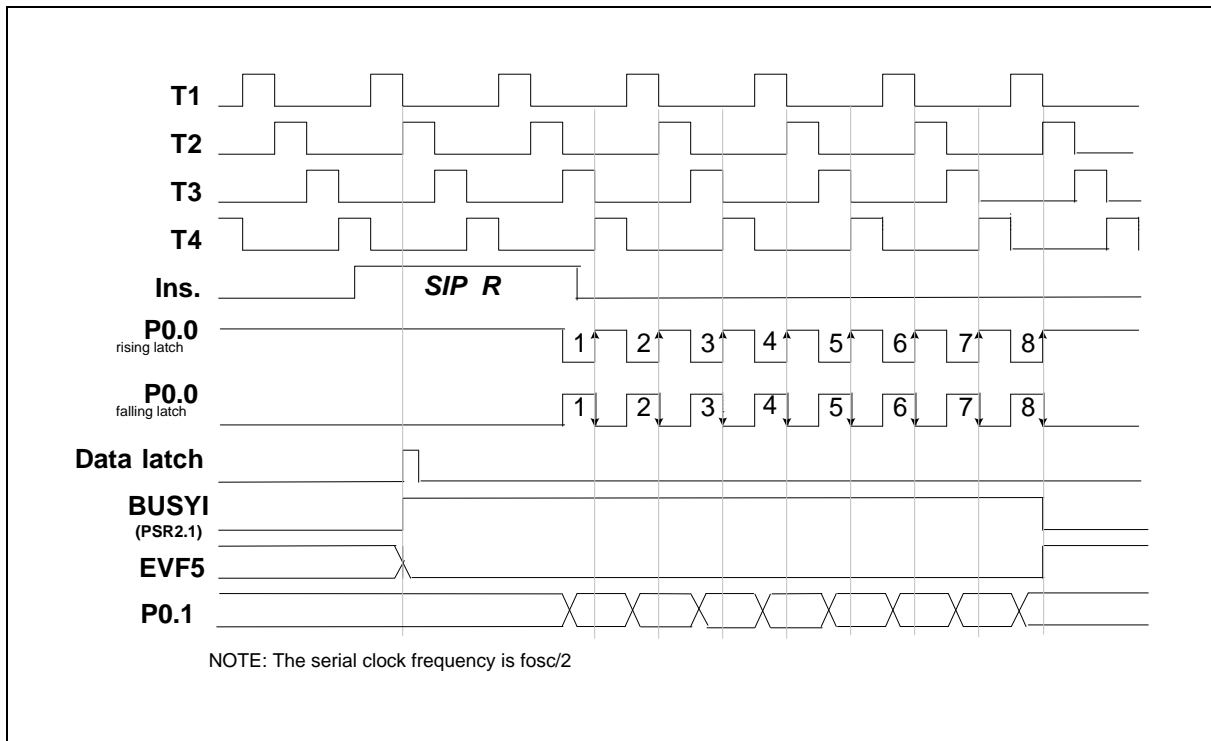

Figure 5-12 Timing of the Serial Input Function (SIP R)
- (1) **When in the first time the SIP R instruction is executed, the data will be loaded to the ACC and RAM from the serial input buffer. But this data is not meaningful, it is used to enable serial port.** There are two methods to get the serial data, one is interrupt and the other is polling. When enable the serial input, the bit 1 of port status register 2 (PRS2) will automatically be set to "1" (BUSY_I = 1). Then the P0.0 pin will send out 8 clocks or accept 8 clocks from external device and the data from the P0.1 pin will be loaded to SIB buffer at the rising or falling edge of the P0.0 pin. After the 8 clocks have been sent, BUSY_I will be reset to "0" and EVF.5 will be set to "1." At this time, if IEF.5 has been set (IEF.5 = 1), an interrupt is executed then the SIP R instruction can get the correct data from the serial input buffer (SIB), **low nibble of SIB moves to ACC register and the high nibble moves to RAM**; if HEF.5 has been set (HEF.5 = 1), the hold state is terminated. The polling method is to check the status of PSR2.1 (BUSY_I) to know whether the serial input process is completed or not. If a serial input process is not completed, but the SIP R instruction is executed again, the data will be lost. The timing is shown in Figure 5-12.